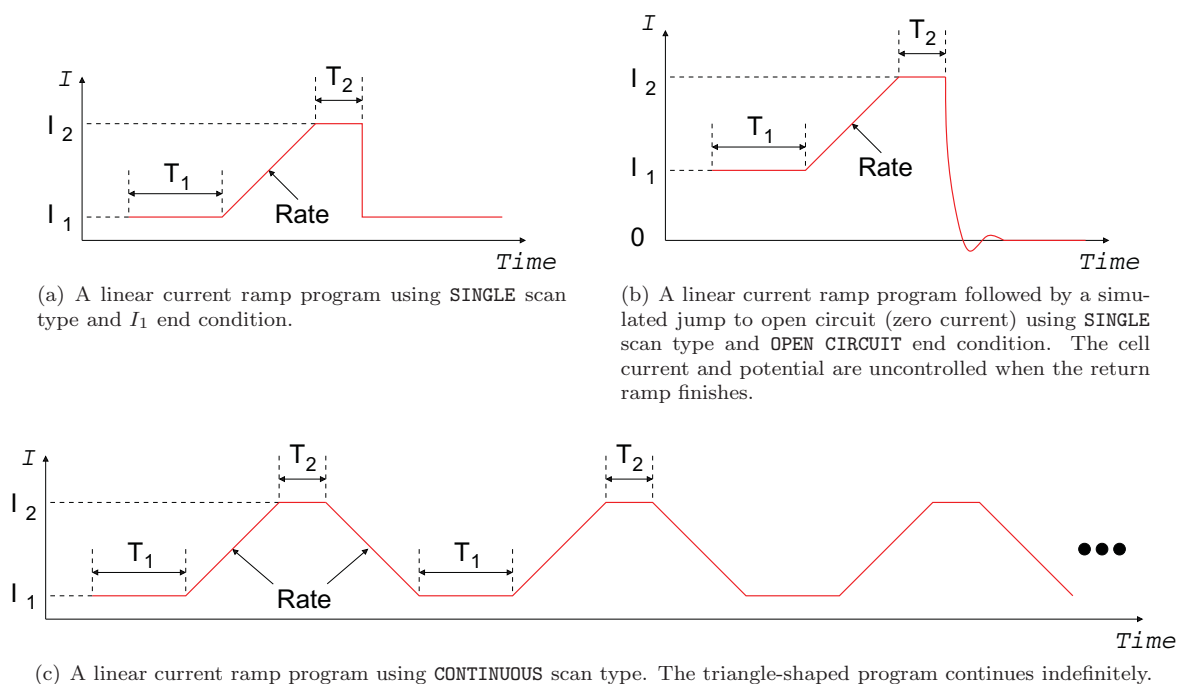

Figure 24: Parameters used to set up a linear current ramp scan.
Figure 24 illustrates the parameters needed to specify a linear current ramp scan. The procedure is as follows:
3. Choose the scan end condition. Figure 24(a) illustrates the cell potential for the I_1 end condition, while 24(b) shows it for OPEN CIRCUIT.
4. Choose SINGLE or CONTINUOUS scanning. Single scans, illustrated in figures 24(a) and (b), go to the end scan condition after the T_2 wait time. Continuous scans, illustrated in figure 24(c), track back to I_1 after the T_2 wait time with the same rate used for the forward ramp. They then repeat the entire program indefinitely.